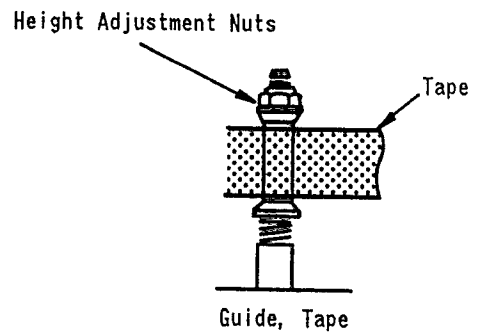

Fig. 5-6
- After completion of the supply side guide roller adjustments, adjust tape guide so that tape runs as shown in Fig. 5-6, and adjust the take-up side guide roller by using the same procedures as for the supply side adjustments. In this case, adjust the guide roller height first.
- Confirm that there is no curling or creasing at the impedance roller. (Both PLAY and REV modes.) If there is any curling or creasing at the impedance roller, adjust the same procedures of Fig. 5-6.